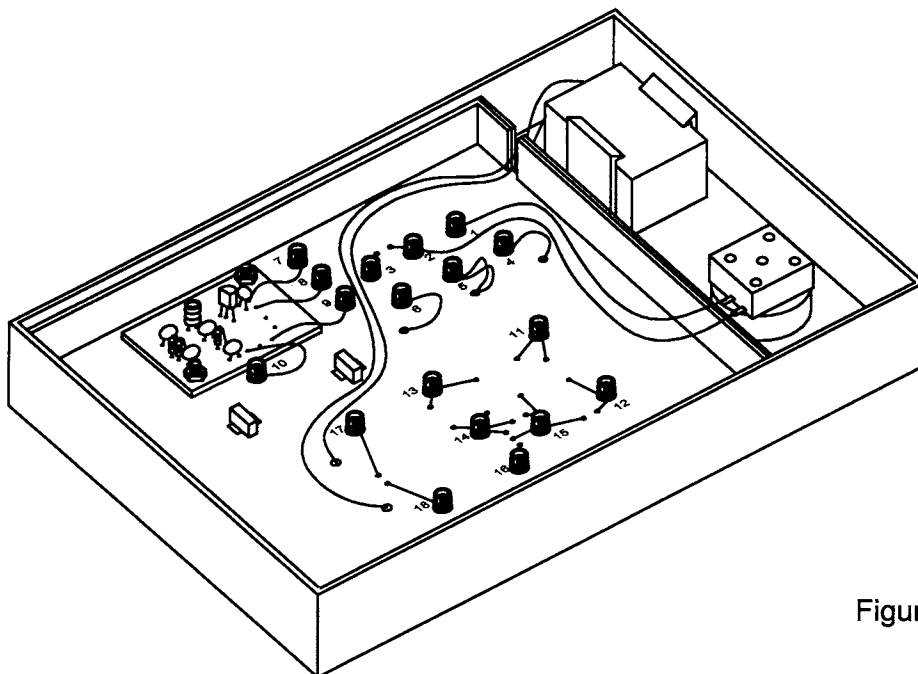
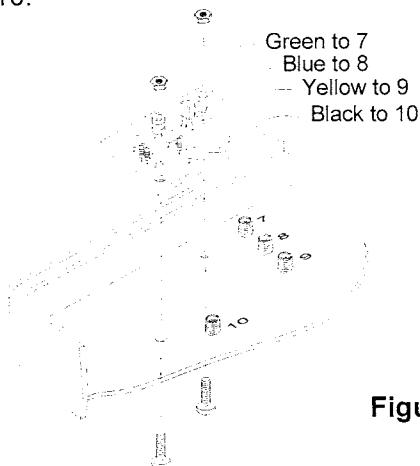

Figure 2
Figure 10
- Look at figure 10 & figure 2 when mounting the SW Tuner Assembly to the bottom of the Panel Board. Insert the two long screws from the top of the Panel.
Connect the green wire to spring terminal 7. (See Figure 10)
- Turn the Panel over and on the bottom, connect the Tuning Capacitor leads to terminals 1 and 2. (See Figure 2.)
3. Turn the Board upside down and compare your wire connections to Figure 2.